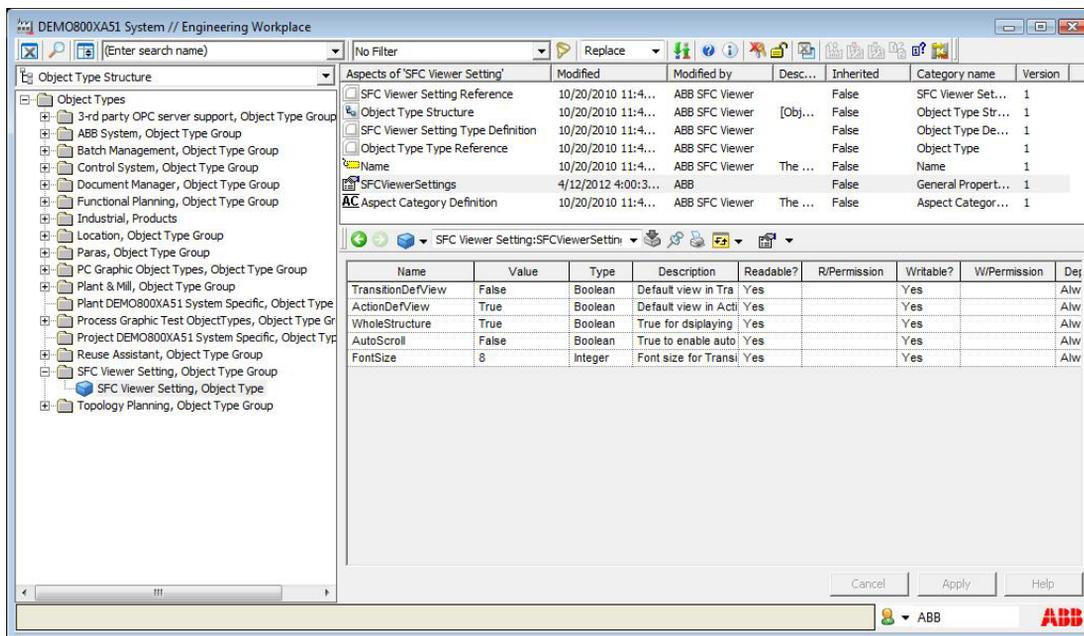

Figure 11. SFCViewerSettings aspect with ActionDefView property
1. Open **Object Type Structure > SFC Viewer Setting > SFC Viewer Settings** aspect. See Figure 11.